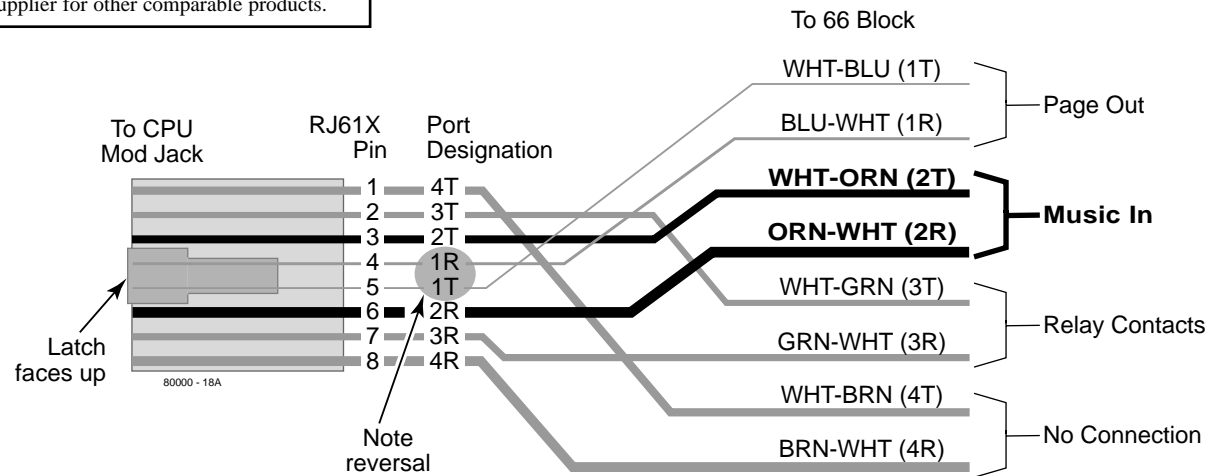

Figure 4-4 INSTALLING A MUSIC SOURCE
### Installing a Music Source (Figure 4-4)
2. For the connector chosen, locate pins 2T and 2R (see Figure 4-4) and connect the music source.